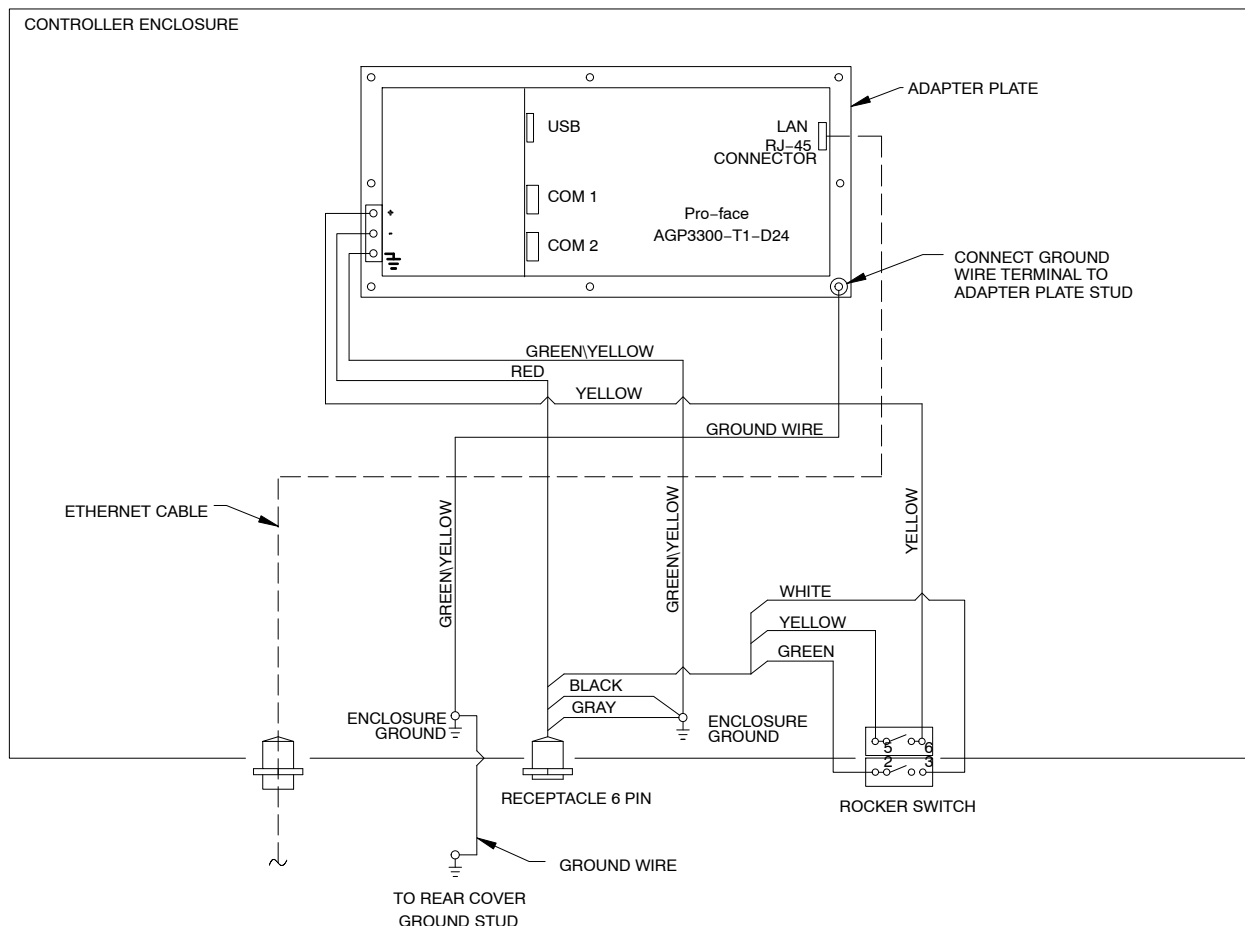

Figure 3 New Module Wiring
8. Connect the network cable and the power and ground wires to the display module as shown in Figure 3. Note that the ground wire with ring-tong terminal must be installed over the lower right adapter plate stud and secured with the lockwasher and nut.